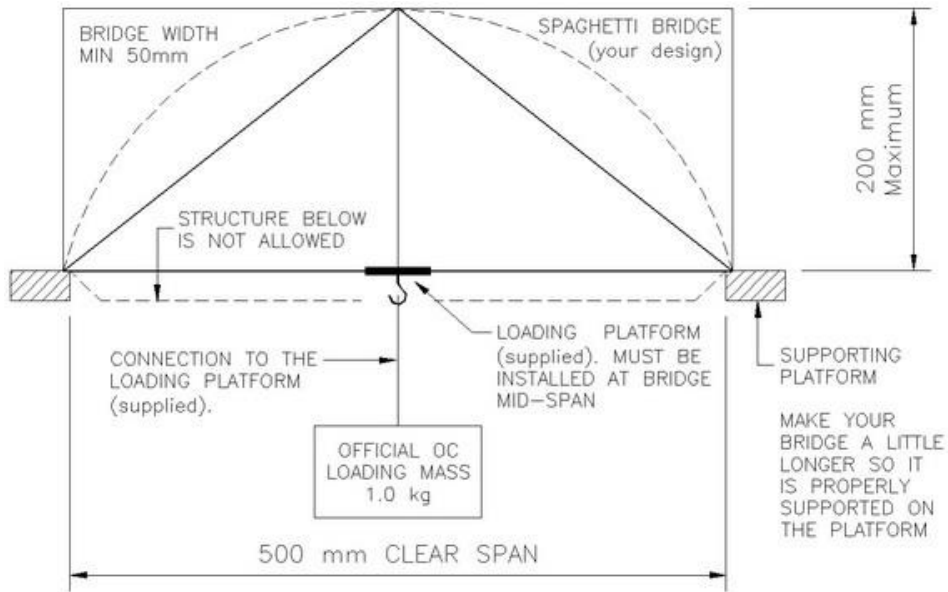

FIGURE 1. Bridge Details
The objective of this competition is to build the lightest open span arch or truss bridge that will support the official Okanagan College (OC) loading mass. The bridge is to be constructed using spaghetti and hot glue, and shall have a minimum width of 50mm, a maximum height of 200mm, and a minimum length of 500mm (see figure 1). After the allotted construction time period, each bridge will be tested with the official OC loading mass. The team whose bridge supports the official loading mass for a period of 60 seconds, meets the contest rules, **and** has the smallest bridge mass will win the competition. Additional prizes will be awarded on the basis of increasing bridge mass.
- A minimum length of 500mm (*ensure your bridge is built a little longer so it will sit properly on the testing support platform. See figure 1).*
A loading platform will be supplied which must be used to accommodate the official OC loading mass during the testing period. The supplied platform must be incorporated in the design using only the materials supplied. **The platform must be installed on the lower portion at the mid-point of the bridge span.** See figure 1.
No support(s) from the bridge to the testing platform will be permitted at any time before or during testing. Figure 1 (page 2) shows the details of the open span bridge construction. The shape is representative only, and proper design is each team's responsibility.
Under the instructions of the time keeper the bridge will be loaded with the official OC loading mass which the team leader will attach to the loading platform (see figure 1). The bridge must support the mass for a minimum time period of 60 seconds.